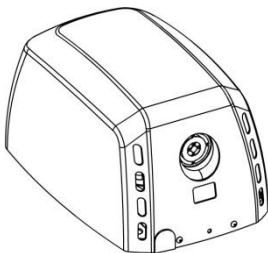

Figure 1.
- The hand dryer is supplied with the casing fitted to the base without tightening (Figure 1).